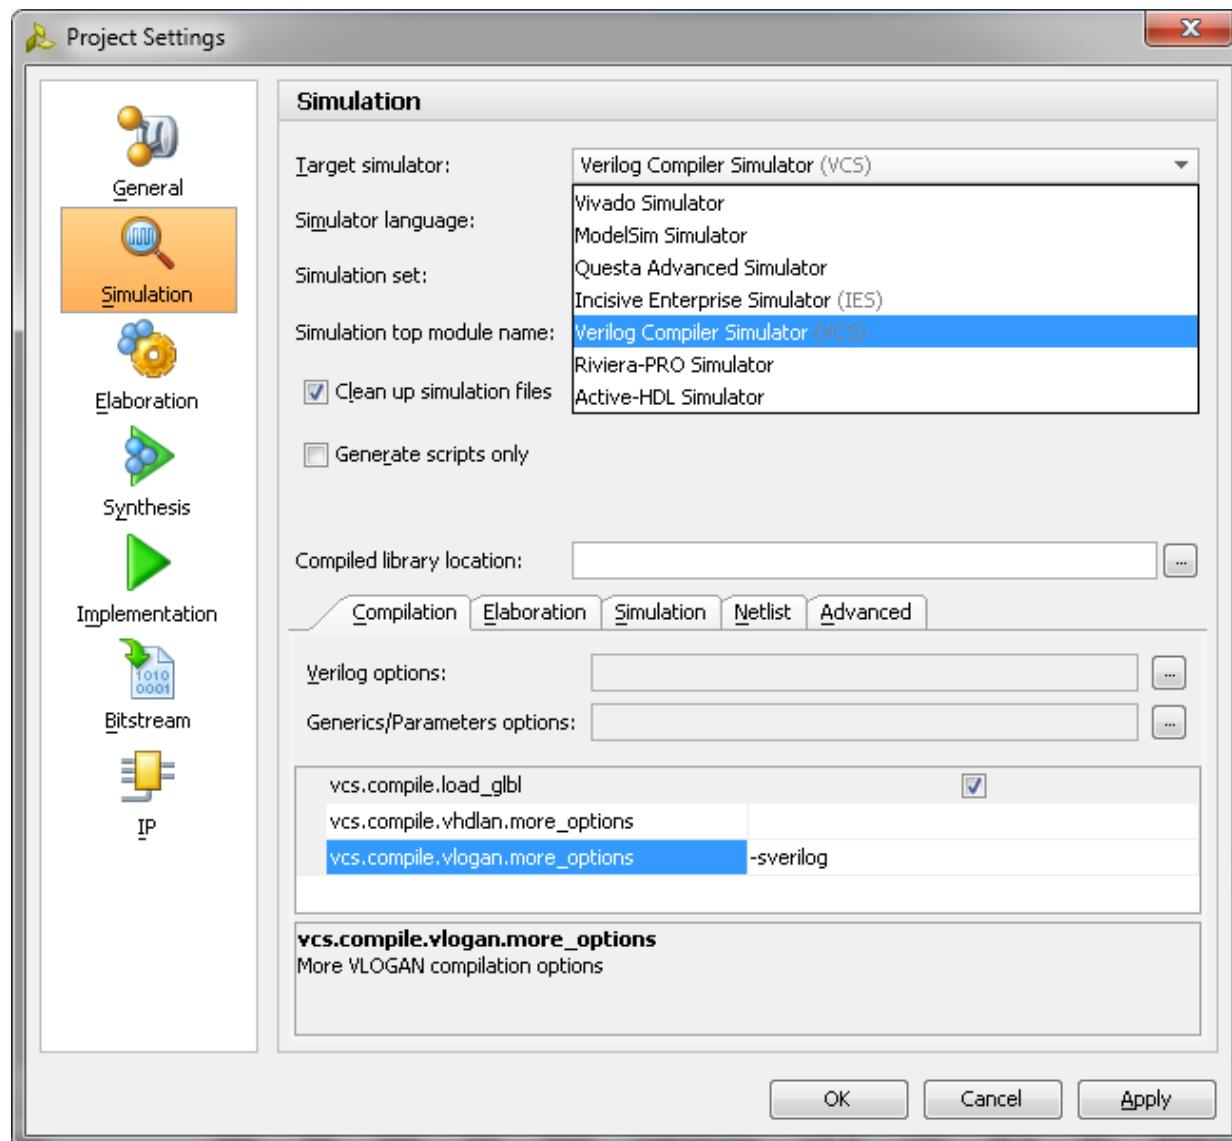

Figure 1-49: Simulation with VCS
- c. Under the **Simulation** tab, set the **vcs.simulate.runtime** to 1 ms (there are simulation RTL directives which stop the simulation after a certain period of time which is less than 1 ms) as shown in Figure 1-49.